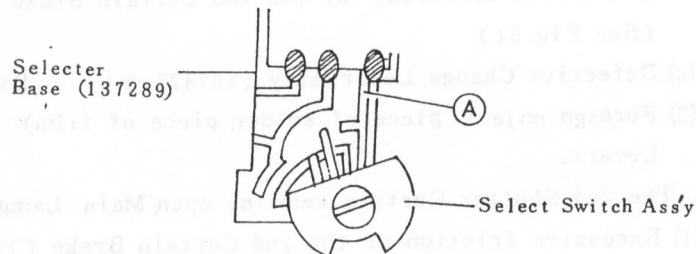

Fig 58
- (1) Short circuit between Selector Base (137289) printed circuit patterns at (A) and GND. (See Fig 58)
- (2) Short circuit between C17 and Camera Body.